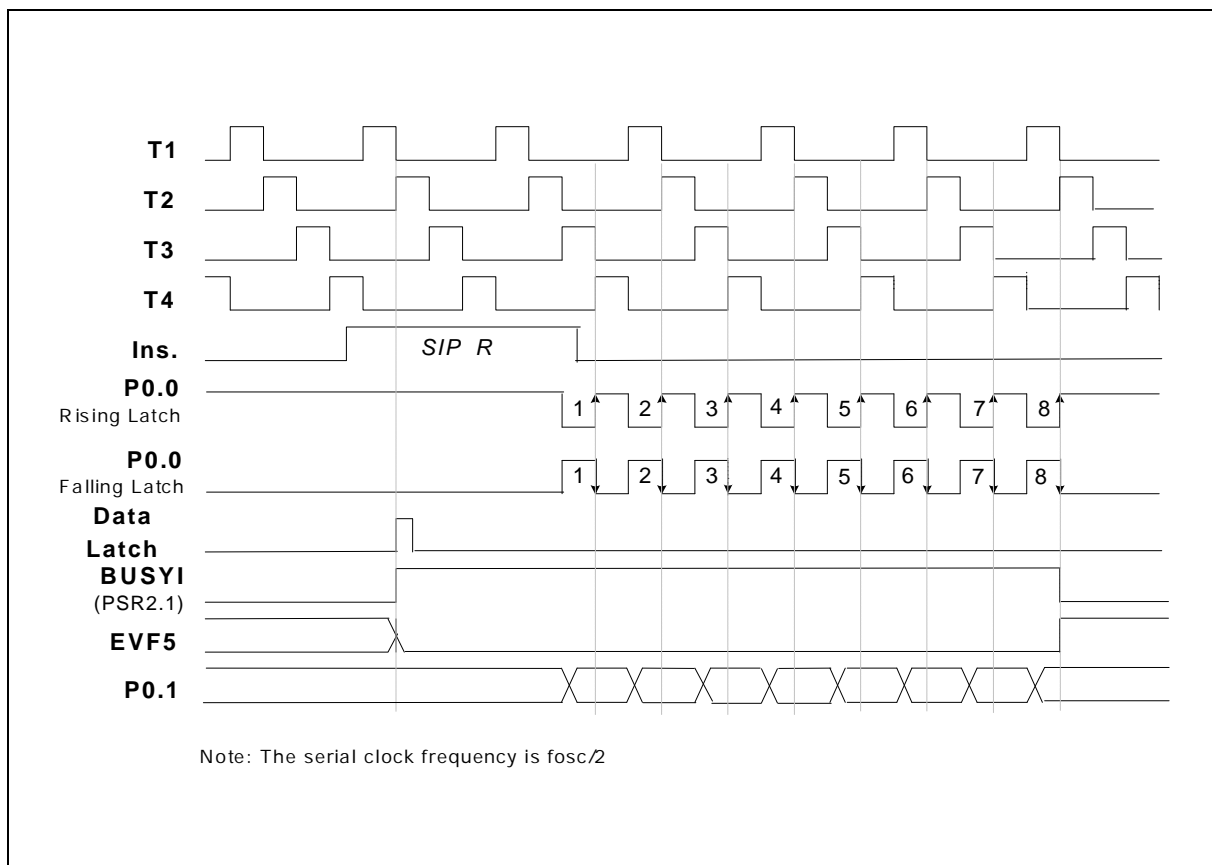

Figure 5-12. Timing of the Serial Input Function (SIP R)
- (1) **When in the first time the SIP R instruction is executed, the data will be loaded to the ACC and RAM from the serial input buffer. But this data is not meaningful, it is used to enable serial port.** There are two methods to get the serial data, one is interrupt and the other is polling. When enable the serial input, the bit 1 of port status register 2 (PRS2) will automatically be set to "1" (BUSYI = 1). Then the P0.0 pin will send out 8 clocks or accept 8 clocks from external device and the data from the P0.1 pin will be loaded to SIB buffer at the rising or falling edge of the P0.0 pin. After the 8 clocks have been sent, BUSYI will be reset to "0" and EVF.5 will be set to "1." At this time, if IEF.5 has been set (IEF.5 = 1), an interrupt is executed then the SIP R instruction can get the correct data from the serial input buffer (SIB), **low nibble of SIB moves to ACC register and the high nibble moves to RAM**; if HEF.5 has been set (HEF.5 = 1), the hold state is terminated. The polling method is to check the status of PSR2.1 (BUSYI) to know whether the serial input process is completed or not. If a serial input process is not completed, but the SIP R instruction is executed again, the data will be lost. The timing is shown in Figure 5-12.